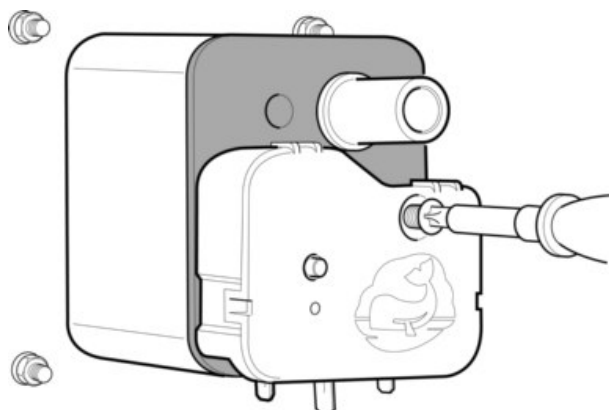

Fig. 5 Insert screw into Watermaster® IC
| Fig. 5 | Insert Screw Into Watermaster® IC |
Step 6 - Plug Watermaster® IC onto socket (see Fig. 5) and tighten screw (N.B – DO NOT OVER TIGHTEN)